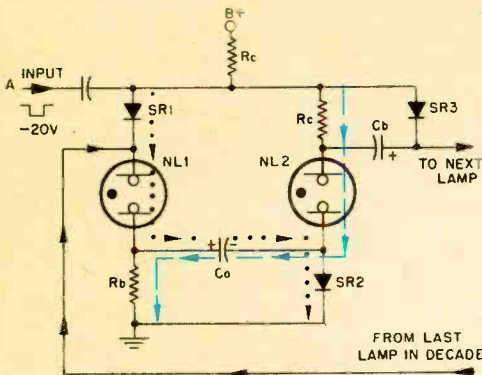

Fig. 1—Simplified counter: NL1 is on, NL2 off. Input pulse turns NL1 off, NL2 on. Next input pulse turns NL2 off, next lamp on. NL1 stays off.
To see how they work, take a look at Fig. 1, a simplified circuit showing only two neon lamps. Consider neon lamp NL1 *on* and neon lamp NL2 *off*. In this condition Ca is charged from B+ via the dotted path through diode SR1, NL1 and SR2 to ground. When a pulse of approximately -20 V is applied to the input, the voltage on NL1 drops below its extinguishing voltage, and NL1 goes off.
Fig. 11—Decade counter. Circuit is extension of that shown in Fig. 1. As there are six circuits in computer, we show six designations (1; 10; 100; 1,000; 10,000; 100,000—one for each counter) on line (H) only.